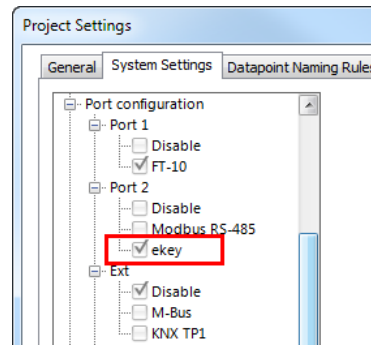

Figure 315: Enabling ekey in the Project Settings Dialog.
2. In the **System Settings** tab enable the ekey protocol on an RS-485 port, as shown in Figure 315.